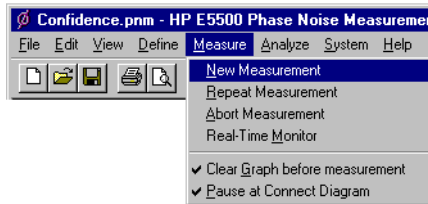

Figure 7-29 Selecting a New Measurement
- 1 From the **Measurement** menu, choose **New Measurement**. See Figure 7-29